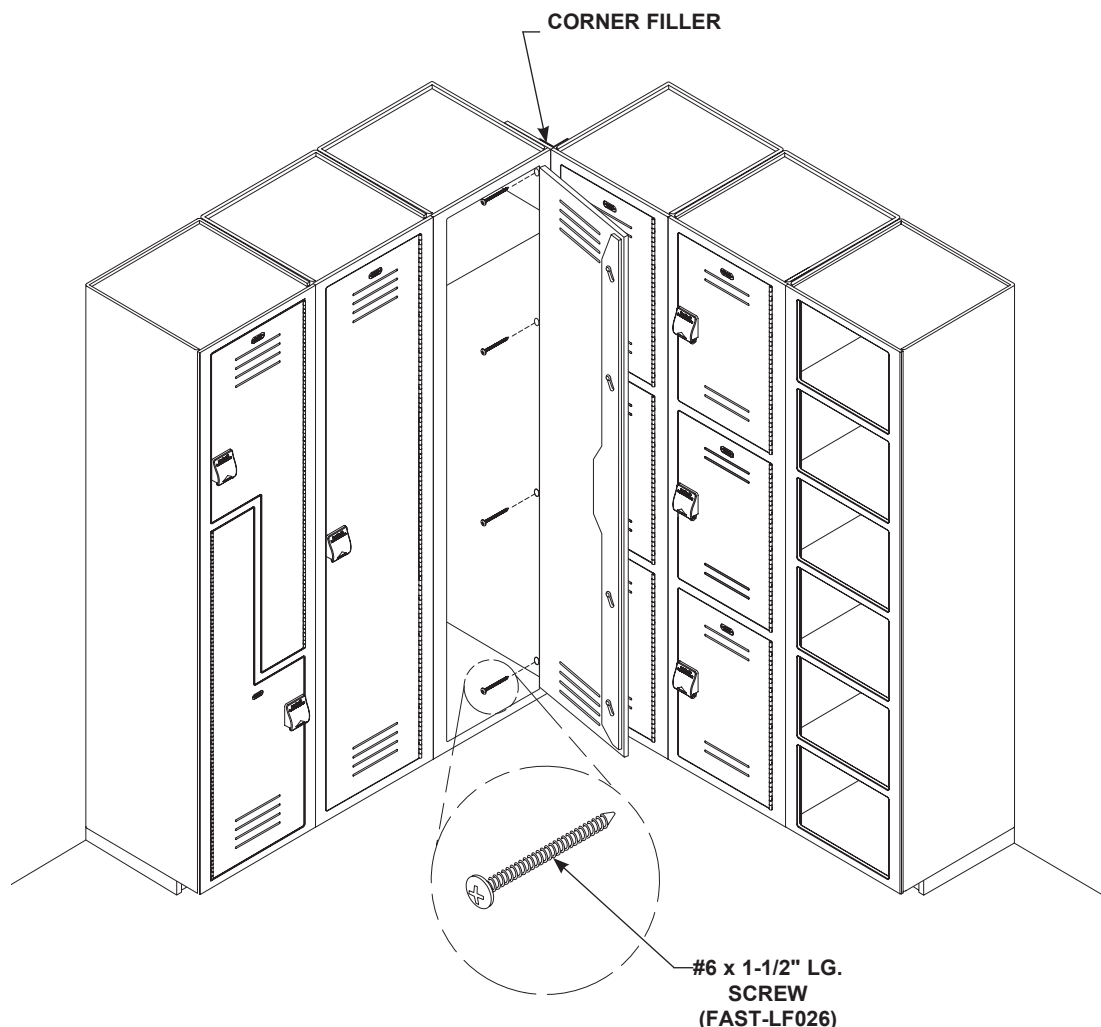

Figure 4
1. Drill four 3/16" dia. clearance holes 1-1/2" from the locker face through the locker box only (see Figure 4). Fasten the locker to the corner filler with the #6 x 1-1/2" screws provided.